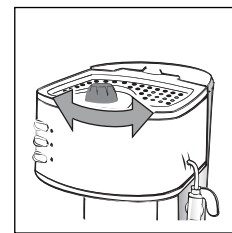

fig. 19
Turn the steam knob at least a half turn anticlockwise (fig. 19). Steam is given off by the cappuccino maker, giving the milk a creamy frothy appearance. To obtain a creamier froth, dip the cappuccino maker into the milk and rotate the container with slow movements from the bottom upwards.
1. Discharge a little steam for a few seconds by rotating the steam knob (fig. 19). This empties any milk left inside the steam tube.